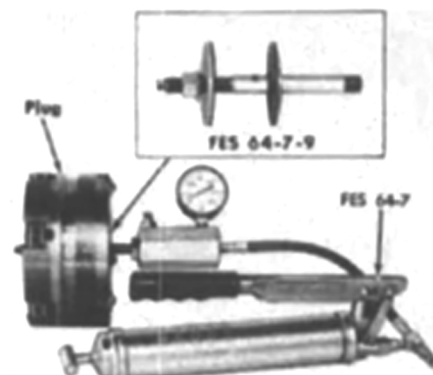

Fig. 71—View showing IH relief valve test kit FES 64-7 being used to check piston inner and outer seals for leakage. Refer to text.
snap ring (2). Using the FES 64-7 relief valve test kit as shown in Fig. 71, check the clutch piston inner and outer seal rings for leakage. Work the hand pump to obtain a pressure reading of 240-270 psi. Pressure should hold steady if seals are good. Release the pressure and remove the test kit. Wrap clutch assembly in clean paper and lay aside for later installation.